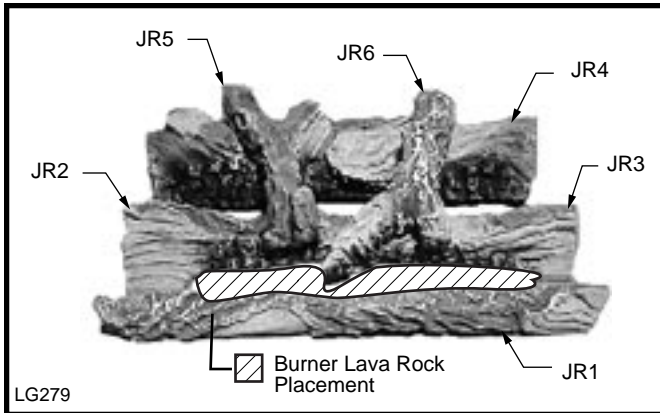

Fig. 18 RHEDV25 log and lava rock placement.
7. Place burner lava rock material on top of burner. (Fig. 18, 19 & 20 for proper location).